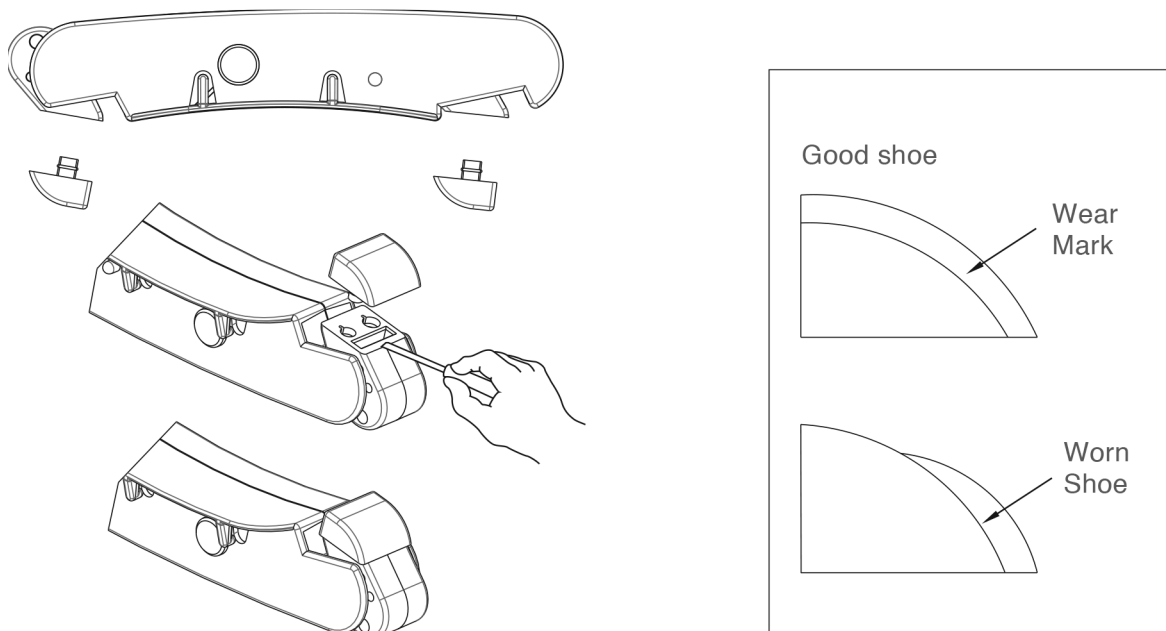
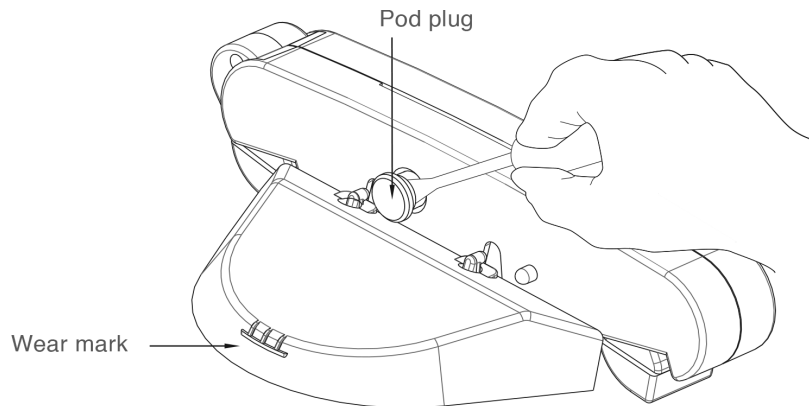

Fig. 13
Fig.14
The pod shoes and wings have wear indicators on their sides and should occasionally be checked to determine if replacement is needed. The shoe wear indicator is a line on the side of the pod shoe that appears as a difference in texture. When this texture difference is no longer visible at the bottom of the shoe when viewed from either side, the shoes must be changed (see Fig. 13). The wing wear indicator is located on the side and is a horizontal line which has three vertical lines above it. When you can no longer see the horizontal line, the wings must be replaced (see Fig. 14 on page 8).
- B. Insert a screwdriver between foot and shoe on one of the pods (see Fig. 13).
- A. Using a screwdriver, remove the plugs from both pods (see Fig. 14).
- A. Using a screwdriver, remove the plugs from the pod (see Fig. 14).
- A. Remove the front and rear flaps from your StarzTruck automatic pool cleaner by inserting a small screwdriver between the flap and the lower body near the pivot point of the flaps (see Fig. 13).